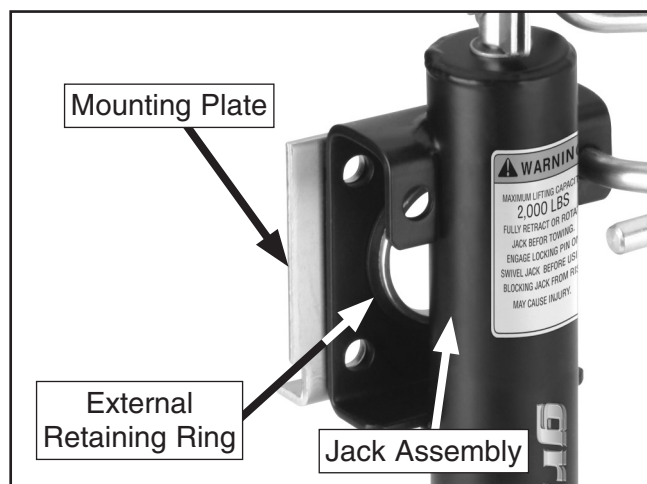

Figure 2. Retaining ring location.
4. While wearing safety glasses, use snap ring pliers to remove the external retaining ring that secures the mounting plate to the jack assembly, then separate them (**Figure 2**).